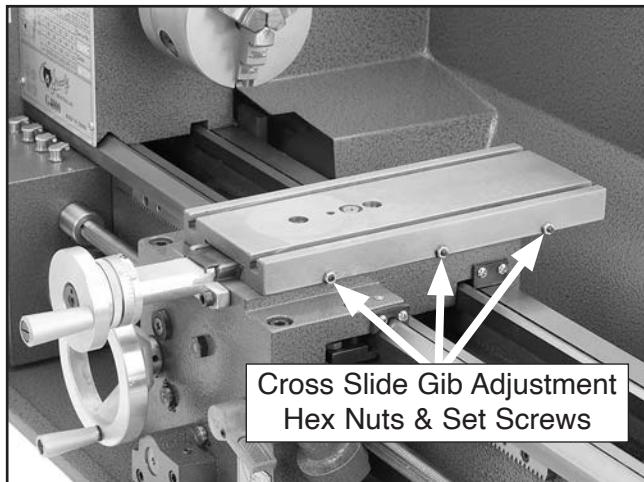

Figure 77. Cross slide gib adjustment hex nuts and set screws.
2. Loosen the three hex nuts on the side of the device (see **Figures 77–78**).